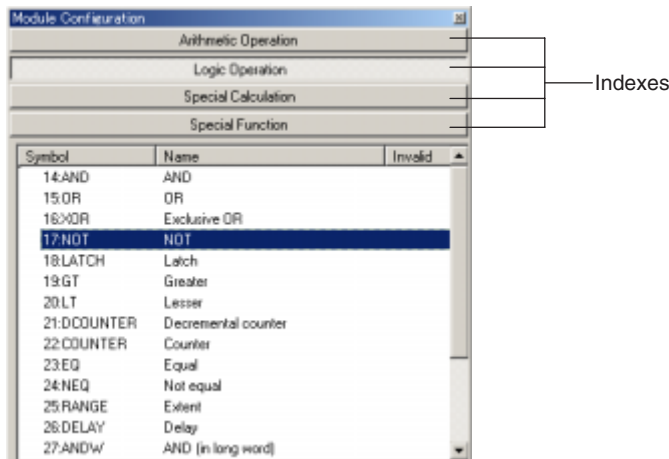

Figure 4.2.5 [Module Configuration] Dialog Box
- (2) In the [Input Block] dialog box, double-click a blank box. The [Module Configuration] dialog box (Figure 4.2.5) appears. For ease of selection, modules are classified into four types; arithmetic operation, logical operation, special operation and special function.